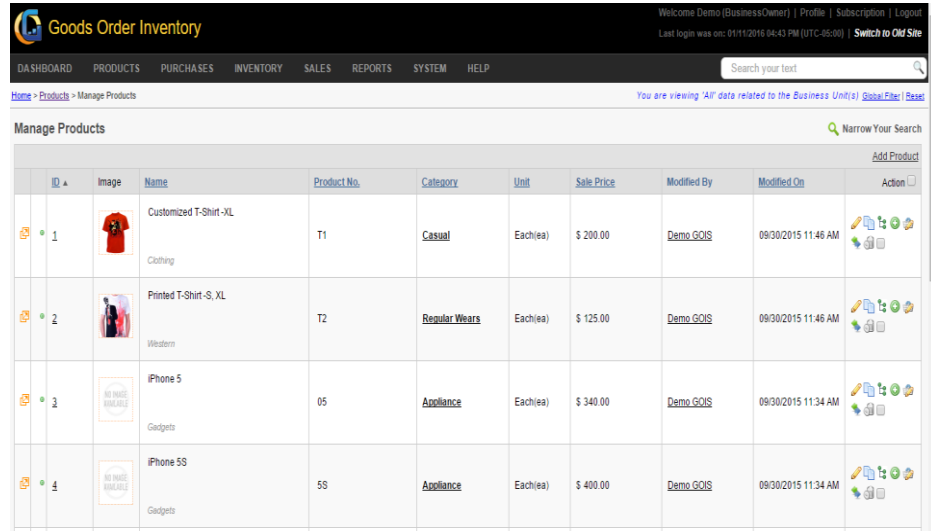

FIGURE 2.1.21
2. Clicking on the ‘Manage Products’ will redirect the user to a product listing page; Snapshot of the window is shown below in (Figure 2.1.21).